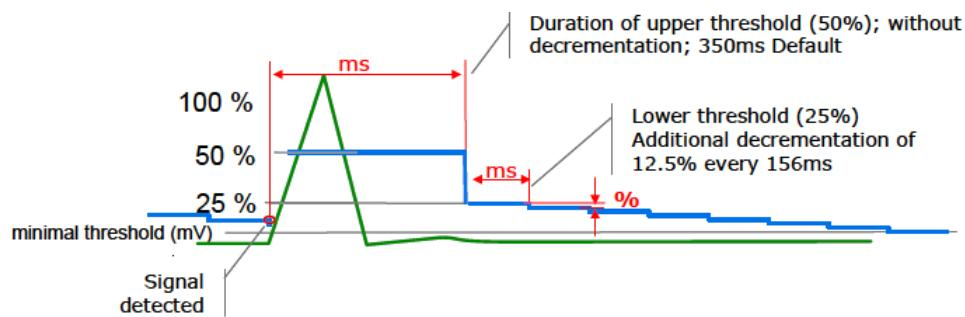

Figure 72: Automatic Sensitivity Control (ASC) in the atrium
The Rivacor ProMRI® DR-T and HF-T ICDs have two sensitivity settings in the atrium: Standard and OFF. The Standard atrial setting is recommended for all patients and works similarly to the ventricular Standard setting. In the Standard setting, each P-wave is tracked and used to reset the upper and lower thresholds. Figure 72 shows an example of atrial ASC. The upper threshold (UT) is set to 50% of the peak P-wave amplitude. The Upper threshold after sense/pace is fixed at 350 ms. Following the Hold of upper threshold, sensing decreases to the lower threshold (LT), which is equal to 25% of the measured P-wave. The lower threshold (LT) decays 12.5% every 156 ms until the Minimum Threshold is reached or until the next event, sensed or paced.